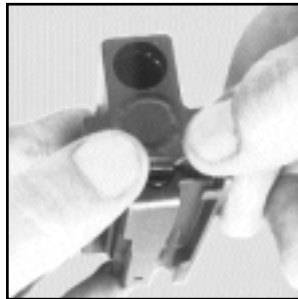

Fig. 29
- Remove firing pin and firing pin spring to the rear. To do this, push locking catch to the right (Fig. 29). With your thumb prevent the firing pin with firing pin spring from springing out.
- Fully depress follower spring and locking plate (Fig.29) and slide magazine floor plate onto magazine housing from the rear.